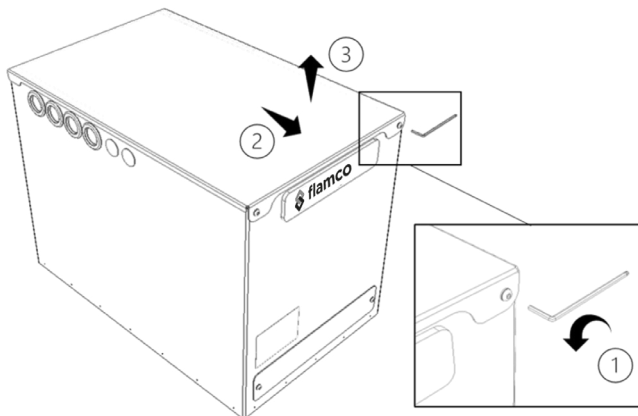

Figure 5 - Lid removal of Flextherm Eco G2 E heat battery
- Remove lid. The lid is secured by 2 x M5 button head cap screws at the front and two locating pins at the back (Figure 5):
- (1) Remove 2 x M5 button head cap screws using 3mm hex head and set aside.
- (2) Slide the lid forward, (3) then lift the lid up and set aside.